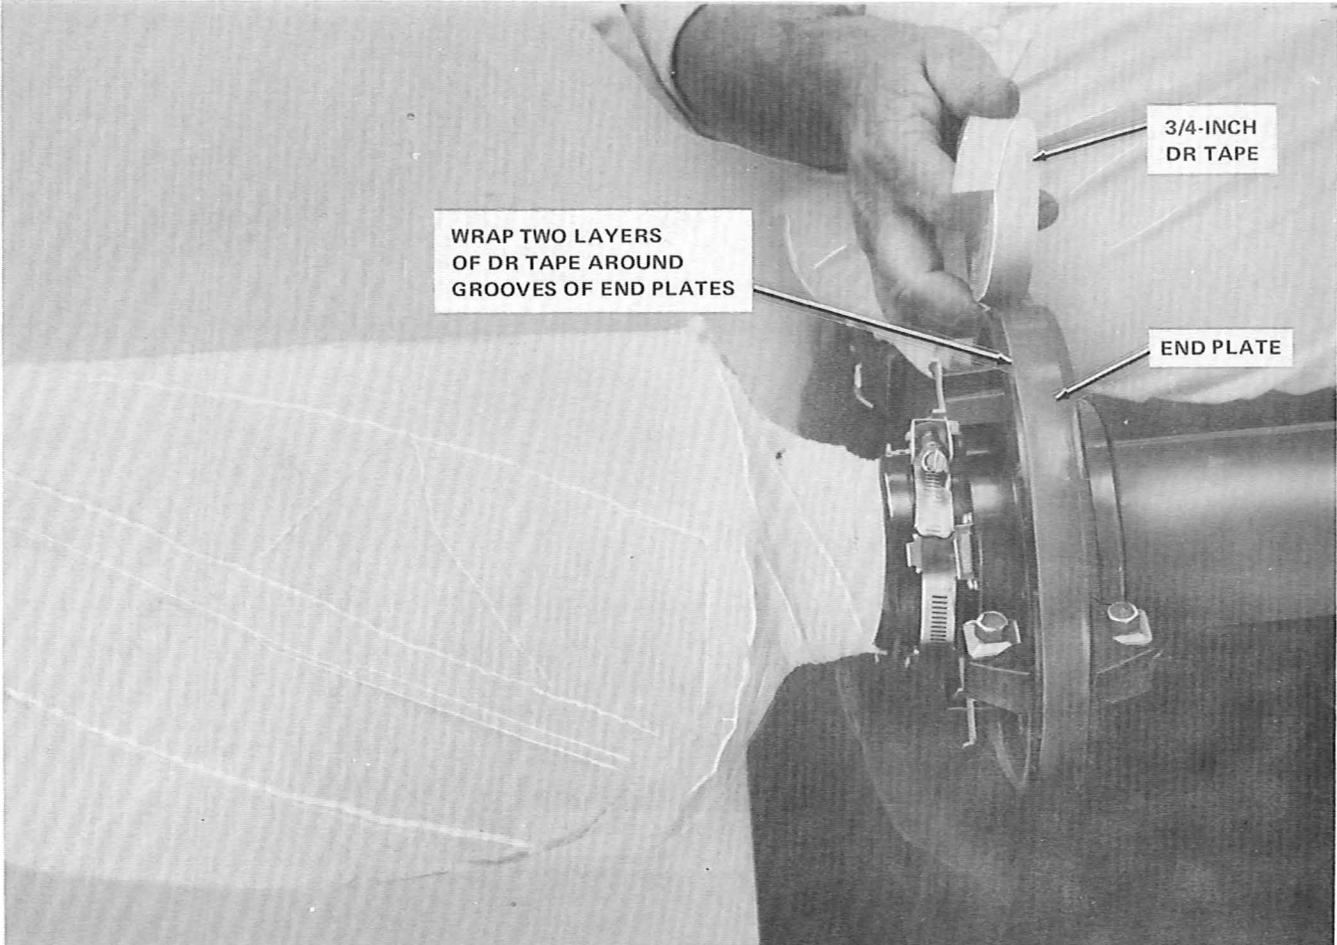

Fig. 11—Applying DR Tape to End Plate
7.01 If the splicing operation cannot be completed in the normal work day, it may be necessary to install a temporary watertight cover as shown in Fig. 11 through Fig. 19.